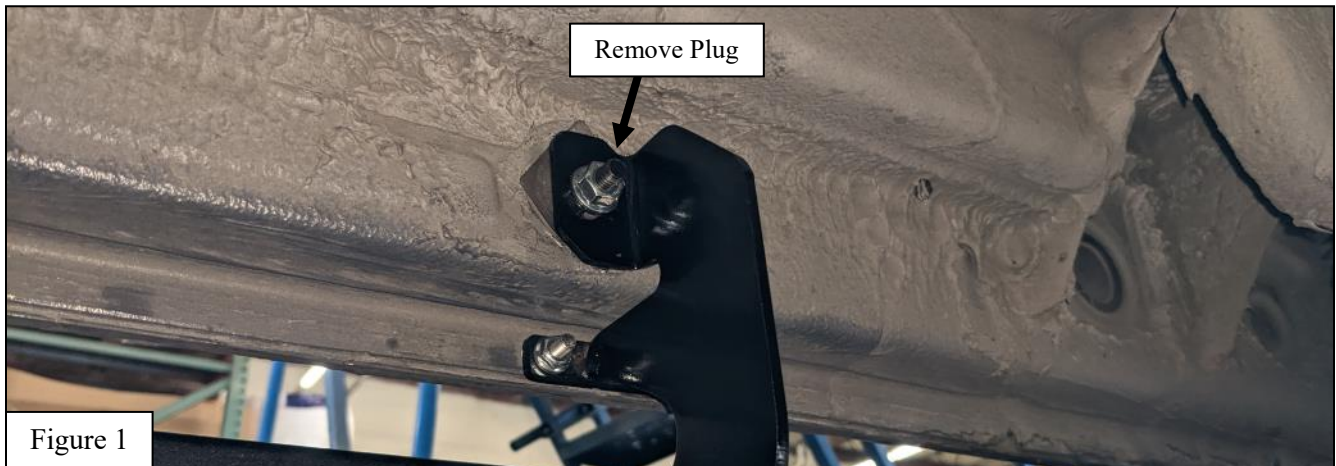
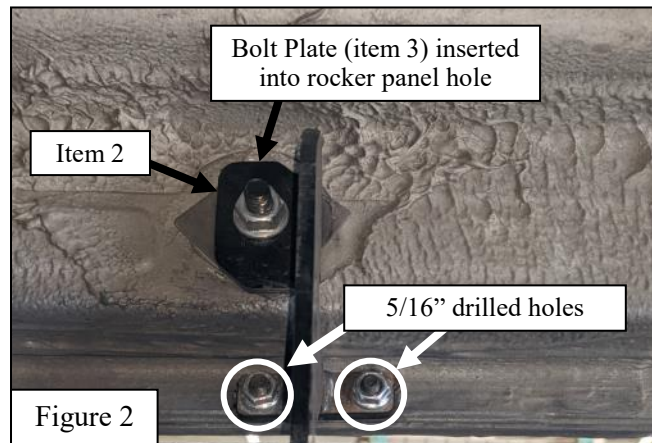

Figure 1
Figure 2
2. Beginning on the passenger side of the vehicle near the back of the sliding door, remove the black rubber plug in the location shown in **Figure 1**.
3. Insert a Short M8 Bolt Plate (**item 3**) into the rear passenger side mounting hole and use a M8 plastic retainer (**item 11**) to keep it in place.
4. Loosely install the Passenger Side Bracket "B" (**item 2**) using the supplied M8 hardware (**items 4-6**) and adjust it to the desired location.
5. Mark the two bottom hole locations and drill two 5/16" holes. See **Figure 2**.
6. Loosely install the M6 hardware (**items 7-10**) using the holes drilled in the previous step. See **Figure 2**.
7. Repeat **steps 2-6** for the Passenger Side Bracket "A" (**item 1**). *Note: The mounting location for Passenger Side Bracket "A" is 39.4 inches from the mounting location for Passenger Side Bracket "B" towards the front of the vehicle.*